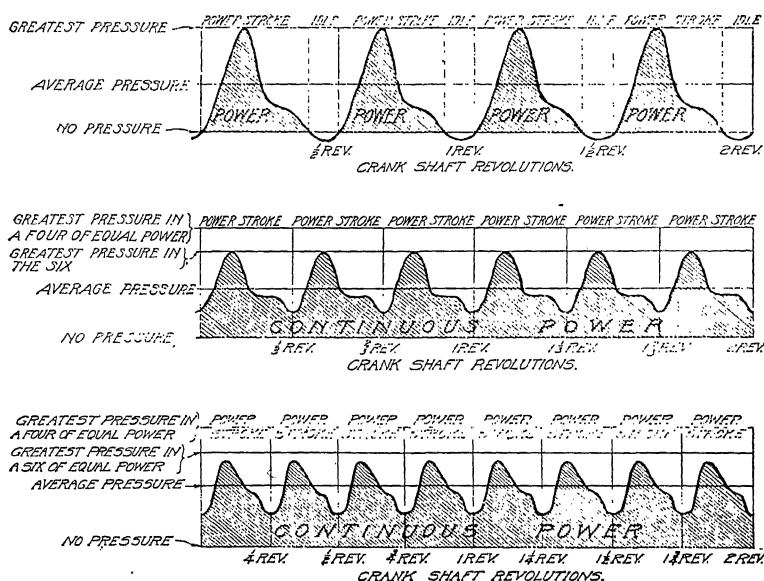

Fig. 20. Curves Showing Duration of Power in Four-, Six-, and Eight-Cylinder Engines
**Theory of Crank Effort.** *One-Cylinder Engine.* In a single-cylinder engine, four strokes of the piston are required to complete its cycle—the suction stroke, compression stroke, power stroke, and exhaust stroke. Note that only one of these strokes, the third, makes power. Roughly speaking, power is not produced throughout even the entire part of this stroke, but only through about four-fifths of it. Hence, in a single-cylinder motor with a 5-inch stroke, the piston travel for one complete cycle will be 20 inches. In only about 4 inches of this distance is power produced. (See Fig. 20.) Hence four-fifths of the total piston travel is a non-producer of power.
six cylinders are evenly spaced, the power in the cylinders must overlap each other. This results in continuous power. Diagrams showing the relation between the application of power in the four-cylinder, six-cylinder, and eight-cylinder are shown in Fig. 20.